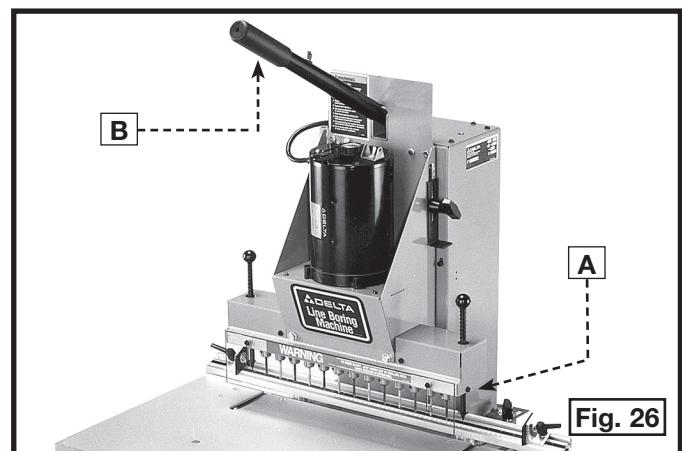
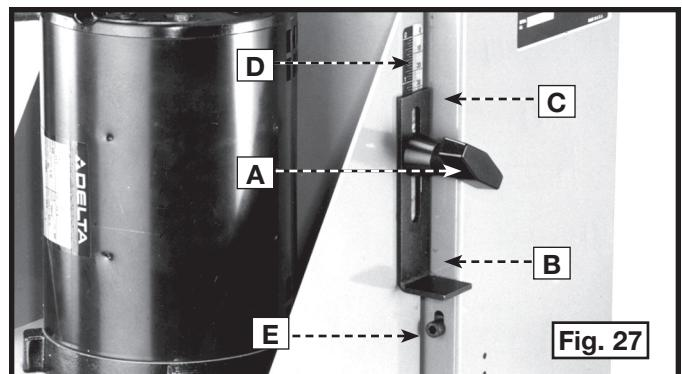

Fig. 26
Fig. 27
To lower the boring head (A) Fig. 26, pull down on the operating handle (B). After the holes have been bored, return the handle to the "up" position.
You can pull the handle (B) Fig. 26 out to increase the leverage. Push in on the handle to move it out of the way.
A stop is provided to set the depth of the boring bits. To control the downward travel of the boring head, loosen the lock knob (A) Fig. 27, and move stop bracket (B) up or down until the edge (C) of the stop bracket aligns with the desired mark on scale (D). Tighten the lock knob (A). A stop screw (E) is provided to stop the boring head when the bottom of the stop bracket (B) contacts the stop screw (E). Another stop, provided on the left side of the machine, ensures an even depth of cut. Set the right depth stop first. Then lower the boring head until it contacts the right depth stop and set the left depth stop accordingly.
1. Set the bracket (B) Fig. 27 so that the edge (C) aligns with the "0" mark on the scale.
2. Pull down on the handle (B) Fig. 26. The stop bracket (B) Fig. 27 should contact the stop screw (E) at the same time that the bits touch the table.
3. If the bits do not touch the table, loosen the stop screw (E) Fig. 27 and adjust the stop screw up or down to just touch the stop bracket at the same time that the bits touch the table. Tighten the stop screw (E).